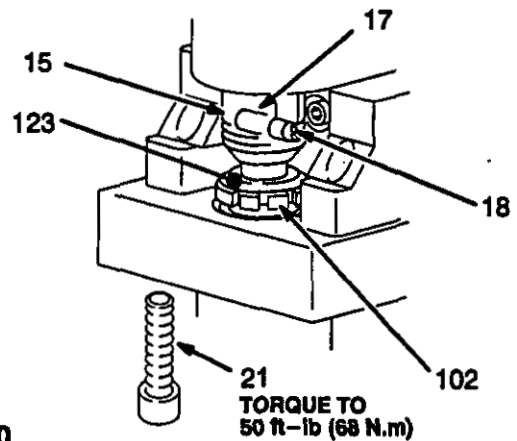

Fig 20
Be sure the retaining spring (18) is firmly in the groove all the way around, to prevent the pin (17) from working loose due to vibration. See Fig 20.